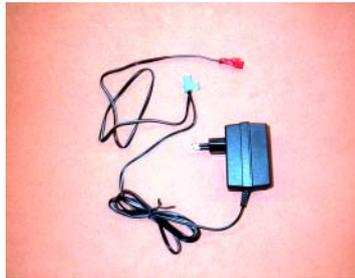
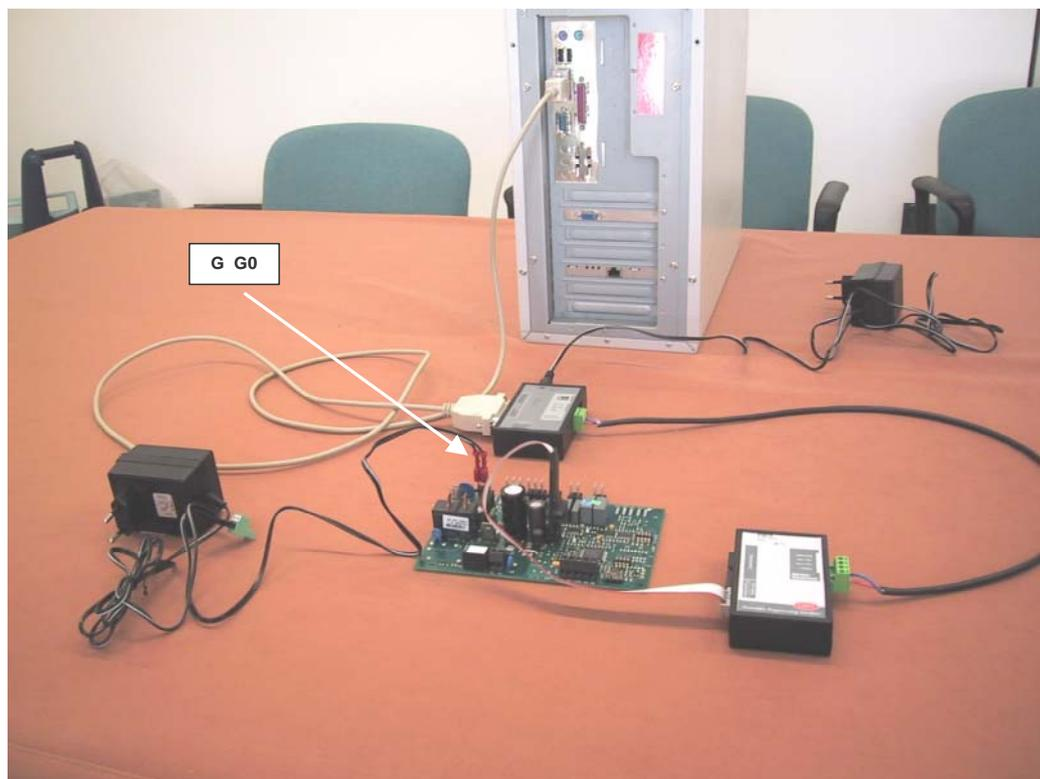

Figure 8
Figure 28
**Note:** HPI must be powered only by the supplied transformer (figure 8) or by a transformer featuring an output 24 Vac protected against the short circuits.
- 230VAC (50/60Hz) / 24VAC transformer with (1x faston connector and 1x plug-in connector) for the HPI adapter feeding “Boardcontroller” controllers (see below) (Figure 8)
In this case, it is necessary to use the HPI (Figure 7), the 230VAC/24VAC transformer for HPI feeding (Figure 8), and the flat cable for connection between the HPI and the controller “on the table” (Figure 10), as shown in Figure 26 and Figure 27.
- the 230VAC/24VAC transformer (Figure 8) for feeding Boardcontroller controller in terminals G-G0 through the faston connector (Figure 28). Note: in this case, the HPI does not need to be fed at 24VAC.